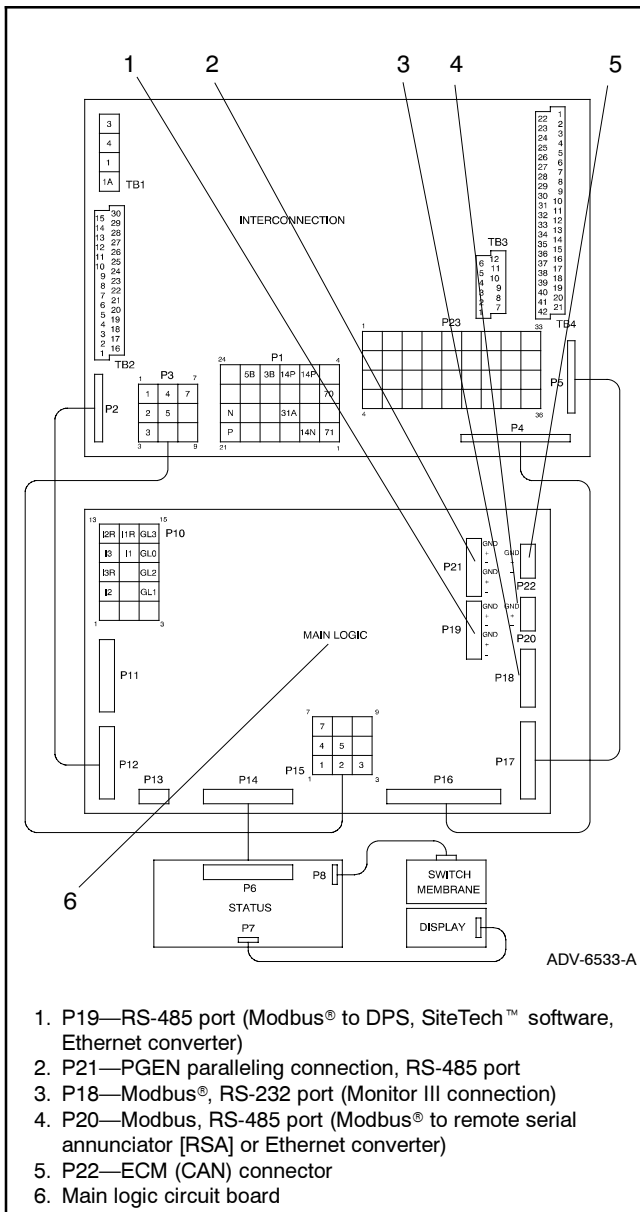

Figure 7-8 Main Logic Circuit Board Communication Ports (Top View of Circuit Board)
- a. Connect the PC to the controller at P19 (RS-485). See Figure 7-8.